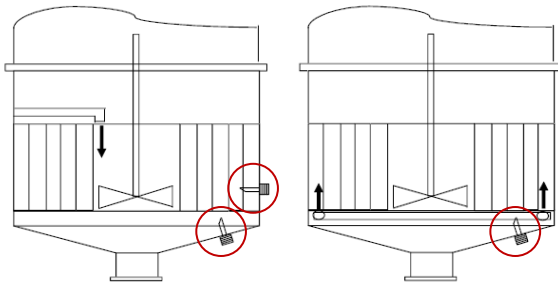

Fig. 1 Recommended sensor locations.
1. Install sensor in location, where the measured sample is representative for the largest volume of the syrup or massecuite. Avoid closeness to the feed syrup entry and above the calandria (see Fig. 1). Too short a distance from the entry point may result in poor data. A possible fast drop of measured concentration after opening the feed valve should be considered.